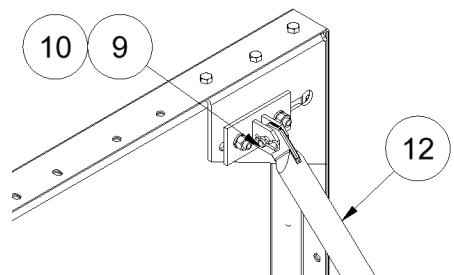

Figure 10
10. Attach the Backboard Brace yoke, item 12, to the brackets installed in step 7 using the 3/8" Clevis Pins, item 9, and Hitch Pins, item 10, as shown in figure 10.